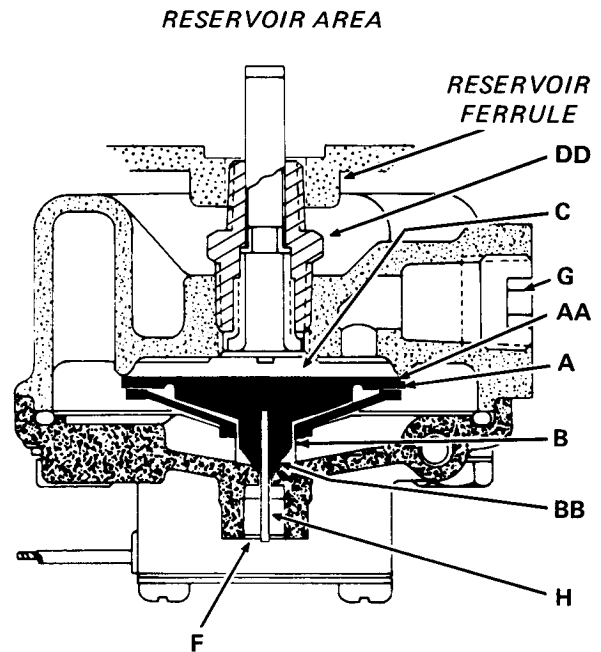

FIGURE 2
(See Figure 2) When the system is charged air pressure of 5 PSI in the reservoir opens inlet valve (A) and permits air and contaminants to pass through filter element (D) and collect in the sump area (E). The inlet valve (A) remains open while system pressure is increasing until the maximum governed air pressure is reached.